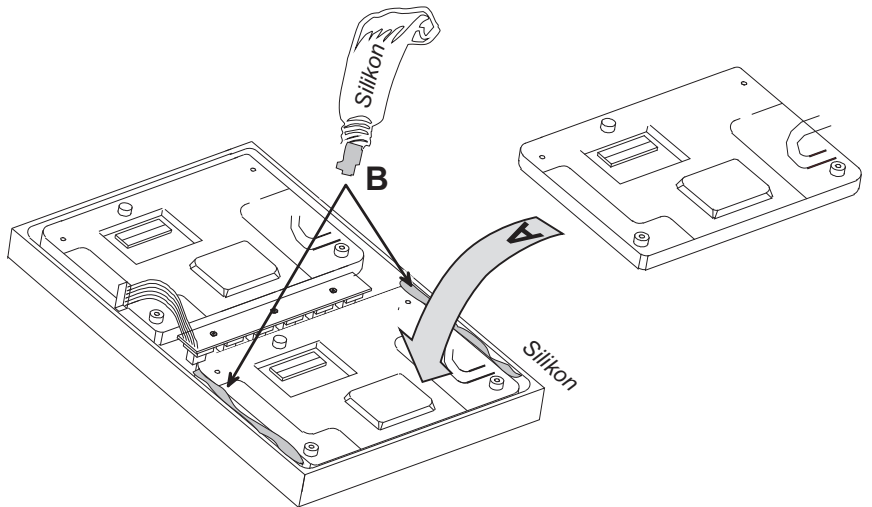

Fig. 8-29: Mounting the new display
13. Place the new display unit (fig. 8-29, A) and fix it with silicone (fig. 8-29, B).